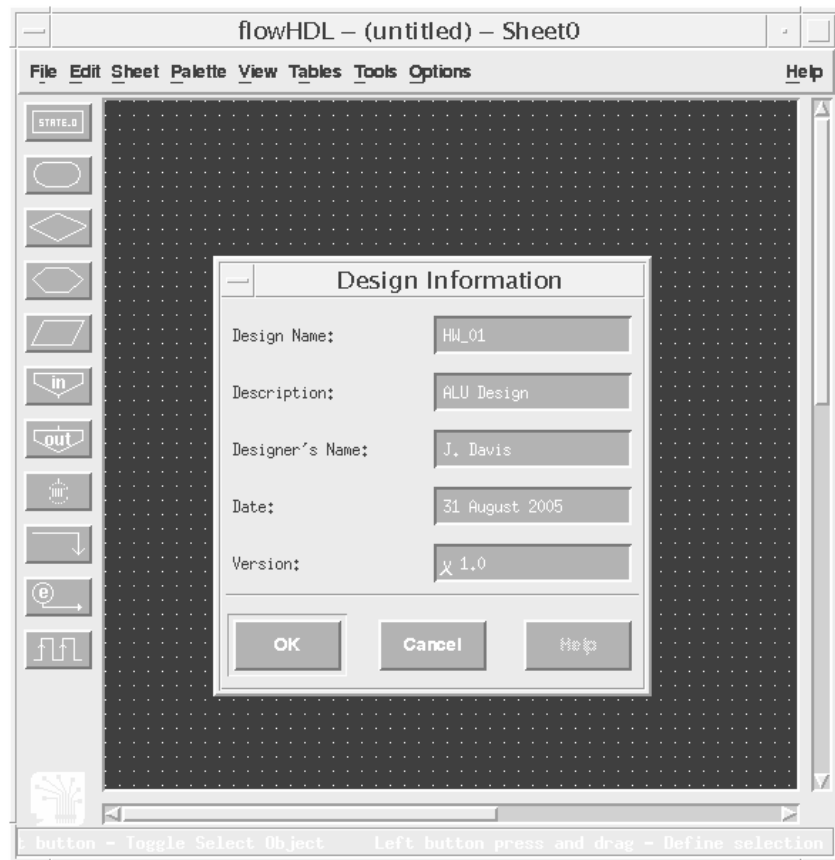

Figure 11. Design Information entry dialog box.
- (7) Now, once you get the model done, you'll want to do the following:
- (7a) enter your design information, through the “Options -> Design -> Information” menu dialog. Enter a new design name (so spaces or non-alphanumeric, except “_” underline character, are not permitted), and specify your name and date and design version (which is v1.0). Use the information as shown in Figure 11.